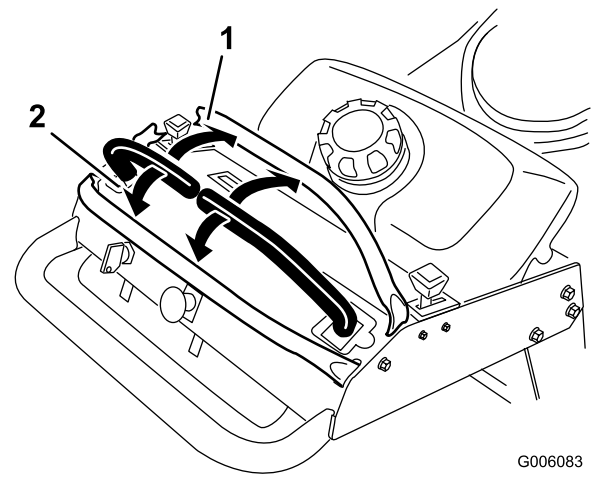

Figure 7
3. To go forward, slowly push the motion control levers forward (Figure 7).
To go straight, apply equal pressure to both motion control levers (Figure 7).
To turn, move the motion control lever toward neutral in the direction you want to turn (Figure 7).
2. To go backward, slowly pull the motion control levers rearward (Figure 7).
To turn, release pressure on the motion control lever toward the direction you want to turn (Figure 7).